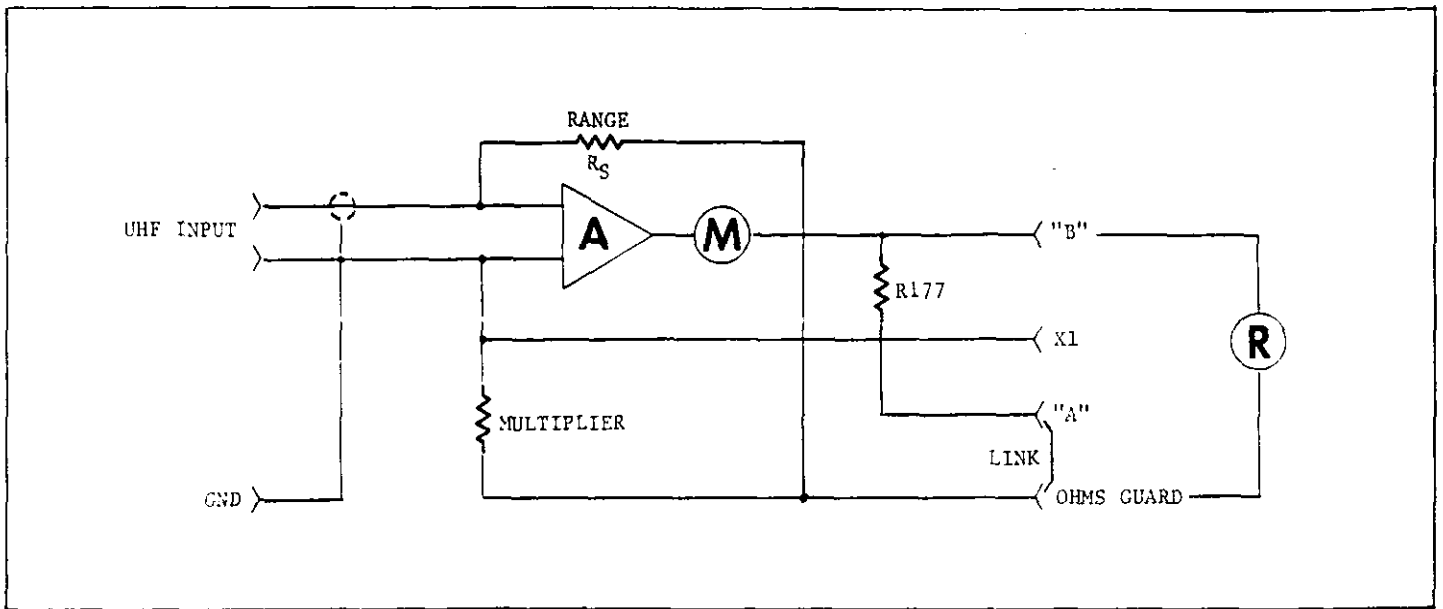

FIGURE 10. Block Diagram of Fast Mode Picoammeter.
a. Normal Method. In the normal method of current measurements (FEEDBACK Switch in NORMAL position), one of the Range Switch resistors, R136 through R146, shunts the input. (See Figure 10). The Model 600B then measures the voltage drop across the resistor. The meter is calibrated to read the current in amperes for the appropriate range.
fed back to the amplifier input through a feedback resistor selected with the Range Switch. (See Figure 10). Floating ground is connected to the low impedance side of the input, and the output ground is floating. This method increases the response speed by minimizing the effects of input capacity; it also reduces the input drop to less than 1 millivolt.
3-6. COULOMB METER OPERATION. The Model 600B circuit for measuring charge is similar to that used for an ammeter with the fast method. A negative feedback is applied around a shunt capacitor, C110 to C113, selected with the Range Switch. The shunt capacitor replaces R_S in Figure 10. The stored charge is proportional to the voltage across the capacitor, which is measured by the Model 600B voltmeter circuits.